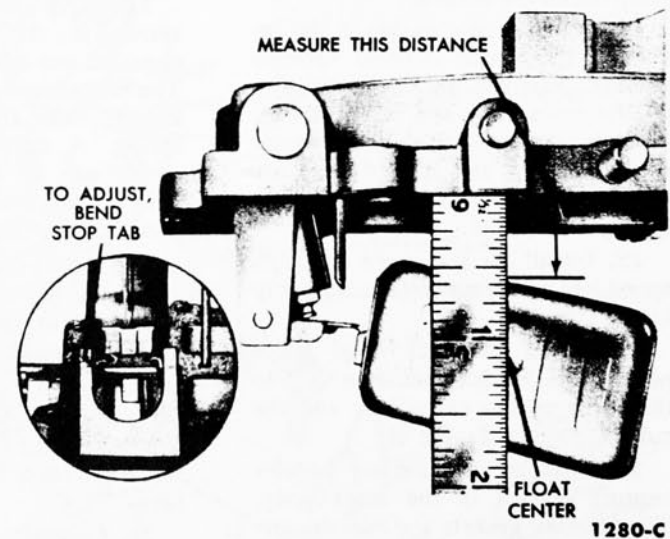

FIG. 48—Float Drop
1. With the air horn held in an upright position, measure the distance between the top of each float and the air horn gasket at the center of each float (Fig. 48). The distance should be $2\frac{3}{32}$ inch.